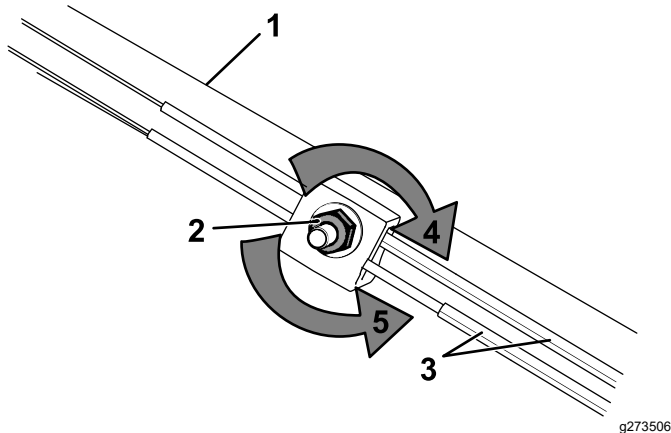

Figure 44
1. Turn the adjustment nut counterclockwise to loosen the cable adjustments (Figure 44).
2. Adjust the tension on the cables (Figure 44) by pulling them back or pushing them forward and holding that position.